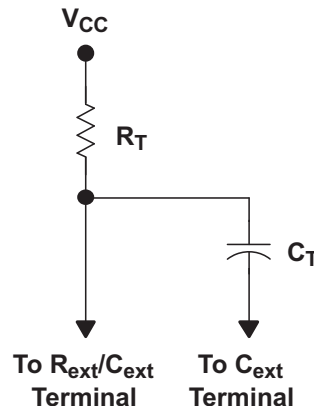

Figure 12. Timing-Component Connections
The output pulse duration,  $t_w$ , is determined primarily by the values of the external capacitance (CT) and timing resistance (RT). The timing components are connected as shown in Figure 12.